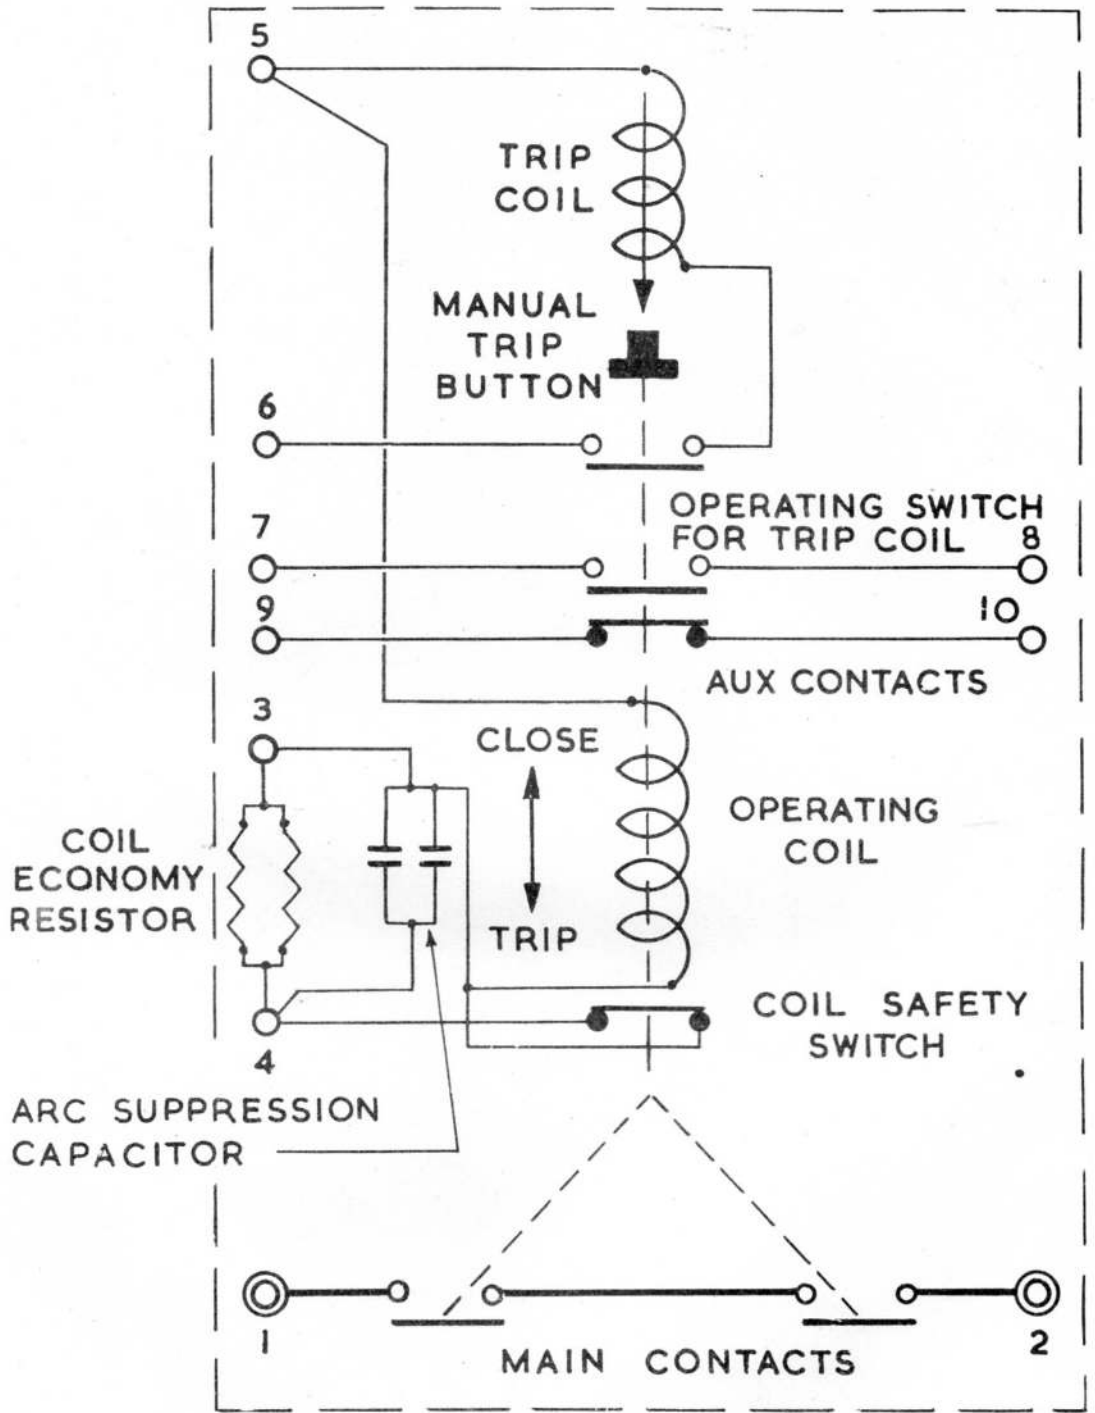

Fig. 2. Diagram of internal connections
- (1) Terminal 1 and terminal 2 with contacts in the normal position (*fig. 2*).
- (2) Terminal 1 and terminals 5, 7, 9 and 10 with the contacts in the operated position.
- (3) Terminal 1 and the frame with the contacts in the operated position.
(4) Terminal 5 and the frame of the unit with the contacts in the operated position.
(5) Terminal 9 and terminal 10 with contacts in the operated position.
(6) Terminal 5 and terminals 6, 7, 8 and 9 with the contact in the normal position (*fig. 2*).
(7) Terminal 6 and terminals 7, 8 and 9 with the contacts in the normal position (*fig. 2*).
(8) Terminal 7 and terminal 8 and 9 with the contacts in the normal position (*fig. 2*).
(9) Terminal 8 and terminal 9 with the contacts in the normal position (*fig. 2*).
(10) The frame of the unit and terminal 5 with the contacts in the normal position (*fig. 2*).